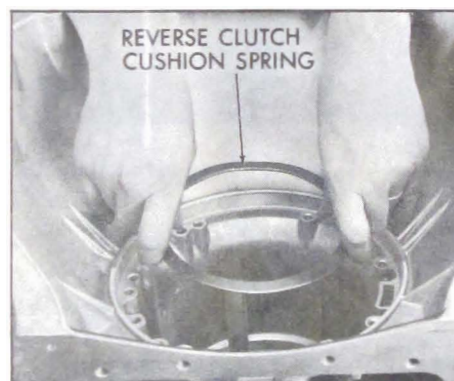

Figure 5-293
7. Install reverse clutch cushion spring. See Figure 5-293.